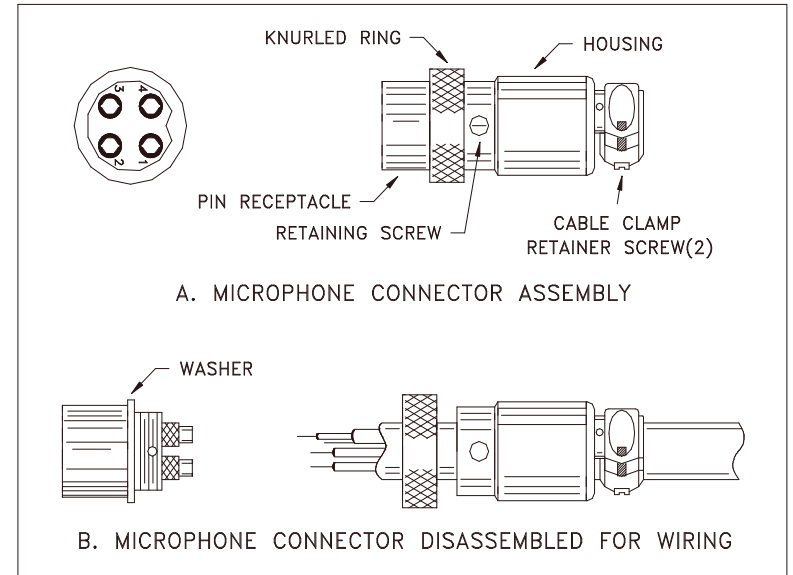

Fig. 2 Microphone plug wiring
4. Feed the microphone cable through the housing, knurled ring as shown Figure 2.
- Be sure that the housing and the knurled ring of Figure 2 are pushed back onto the microphone cable before starting to solder.